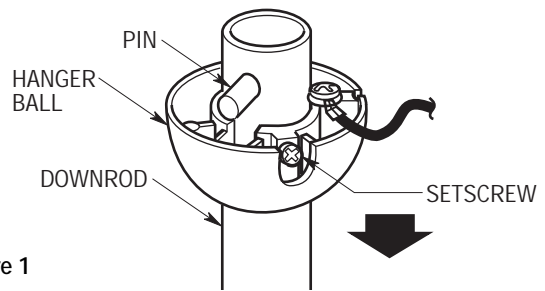

Figure 1
- 2. Remove the hanger ball from the downrod by loosening the setscrew in the hanger ball until the ball falls freely down the downrod (Figure 1). Remove the pin from the downrod, then remove the hanger ball. Retain the pin and hanger ball for reinstallation in step 8.